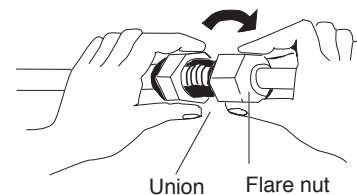

Fig. 13
c) For proper connection, align the union tube and flare tube straight with each other, then screw in the flare nut lightly at first to obtain a smooth match. (Fig. 13)